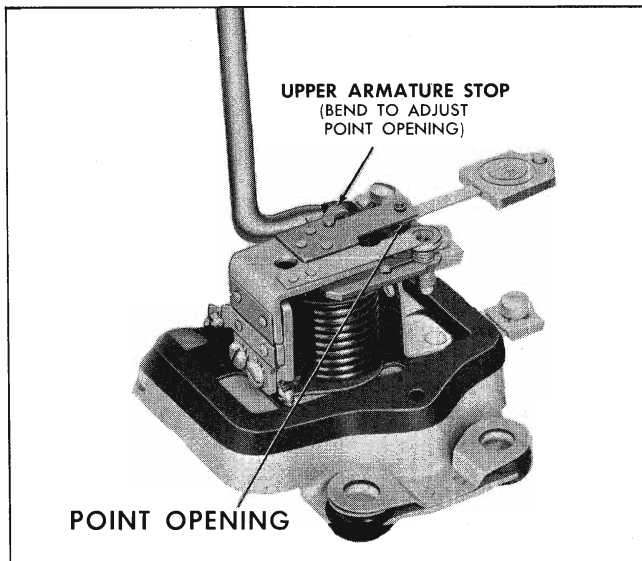

Fig. 11-34 Adjusting Cutout Relay Point Opening
2. Check point opening and adjust to .020" by bending upper armature stop (Fig. 11-34).